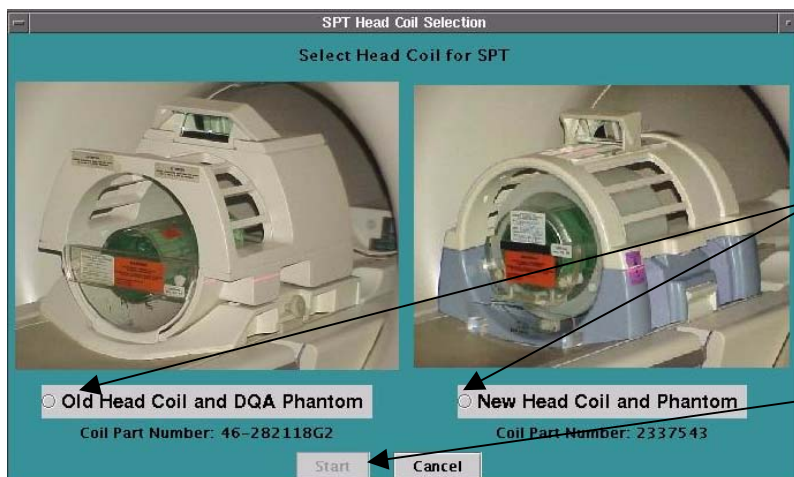

Figure 27
3. When a window opens requesting selection of the Head Coil and Phantom type, click the appropriate radio button, and then click the [Start] button. See Figure 27.